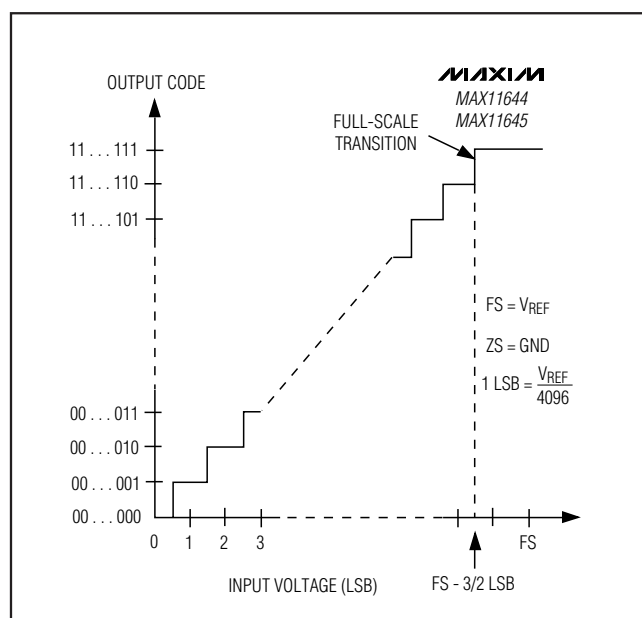

Figure 12. Unipolar Transfer Function
Output data coding for the MAX11644/MAX11645 is binary in unipolar mode and two's complement in bipolar mode with 1 LSB = ( $V_{REF}/2^N$ ) where N is the number of bits (12). Code transitions occur halfway between successive-integer LSB values. Figures 12 and 13 show the input/output (I/O) transfer functions for unipolar and bipolar operations, respectively.